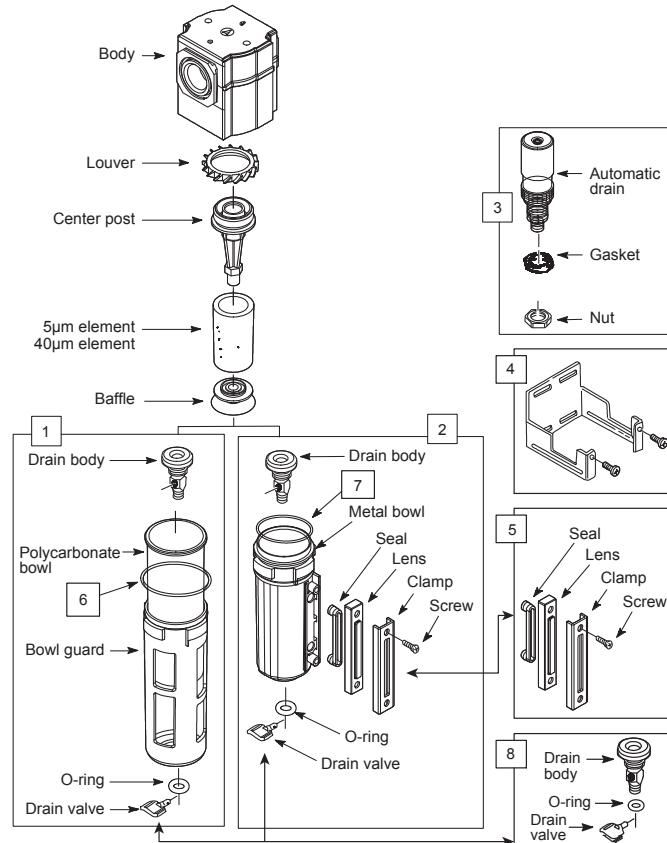

figure 2
OPERATING INSTRUCTIONS (See Figure 2)
- 1 Disassembly (See Figure 2)**
- Disassemble in general accordance with the parts illustrated in Figure 2. Do not remove the drain unless replacement is necessary. Remove and replace only if drain malfunctions or is being replaced with optional automatic drain (4ZK18A).
- 2 Cleaning(See Figure 2)**
- 3 Assembly (See Figure 2)**
- Assemble filter as shown on Figure 2.